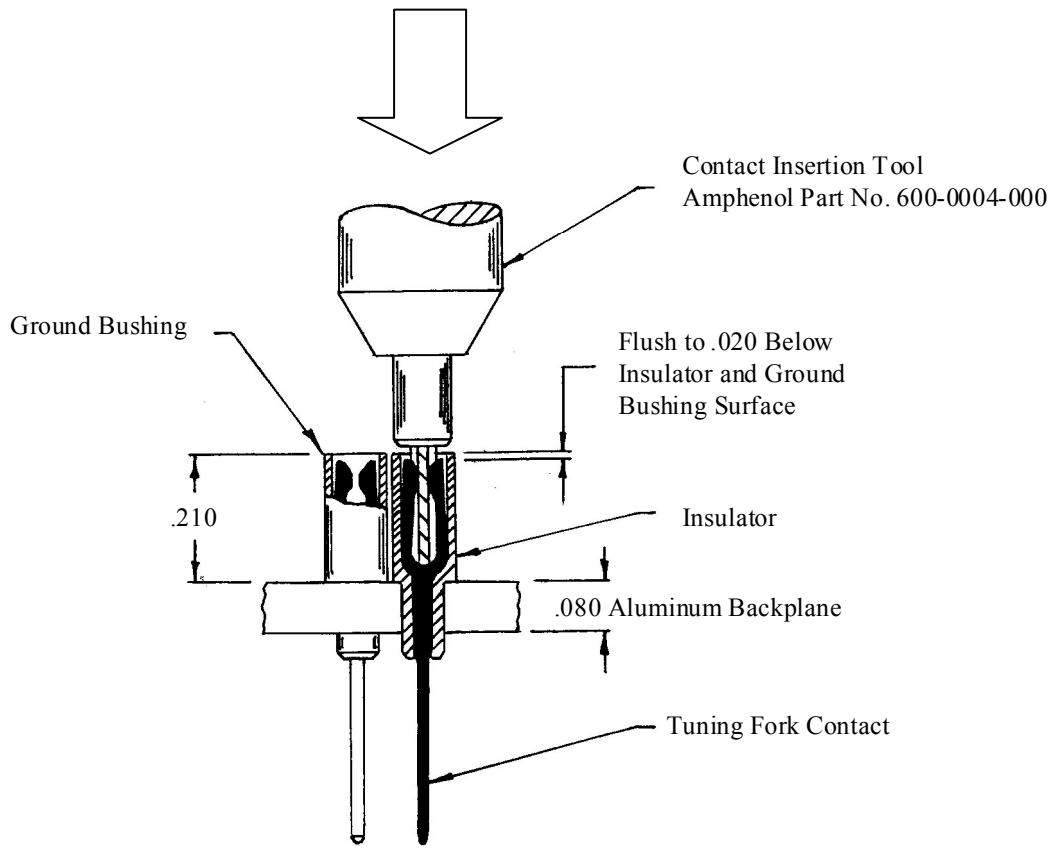

Figure 1
- 2.2.6 Hold tool so that it is vertical to the connector in all planes and also so that the blade is in line with any other contacts in the same row (see Figure 1).